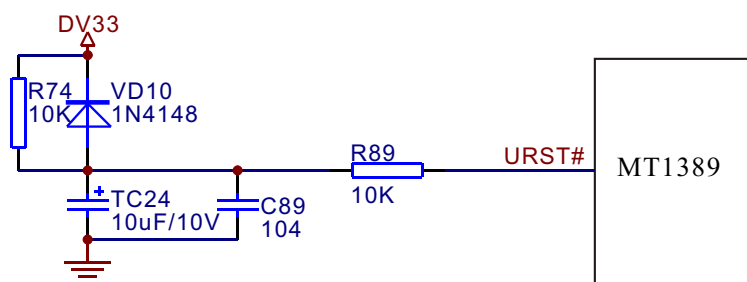

Figure 3.2.13.1 Reset circuit diagram
1. Reset circuit is shown as in the following figure 3.2.13.1: